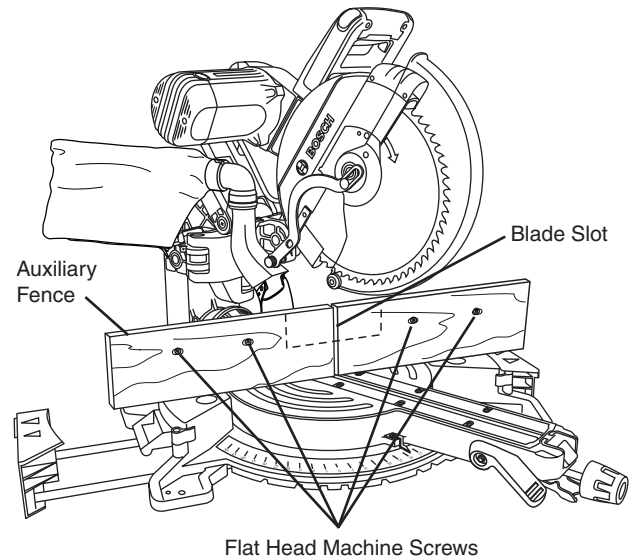
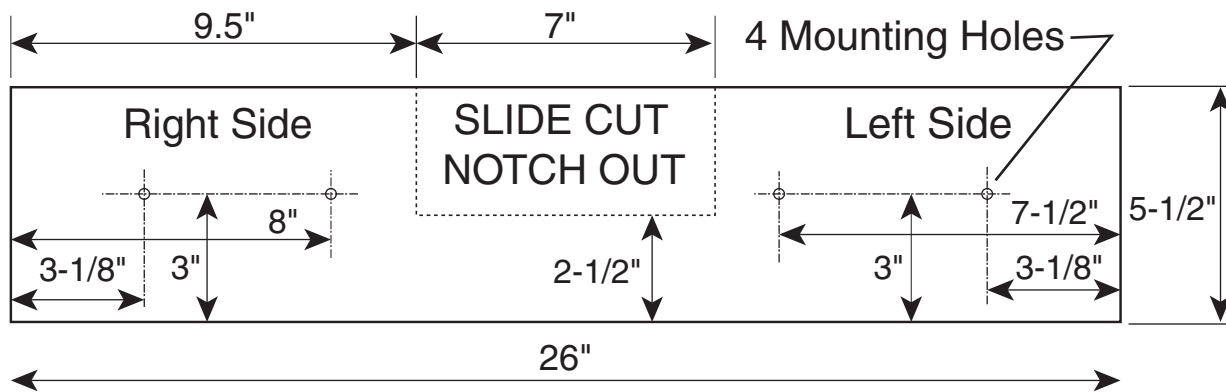

Figure 37. Auxiliary Fence
Figure 38. Tall Auxiliary Wood Fence - 3/4" Thick
1. Place a piece of wood against the miter saw fence (see Figure 37). Wood can have a maximum height of 5-1/2". Check that auxiliary fence assembly does not interfere with head assembly. See dimension drawing – Figure 38.
4. Fasten from front of fence: Attach (each) auxiliary fence using two (2) 3/16" flat head machine screws. With 3/4" auxiliary fence, use 1-1/2" long screws. Secure behind metal fence with washer and machine nuts.
7. When making slide cuts, the center must be notched out per pattern (see Figure 38).